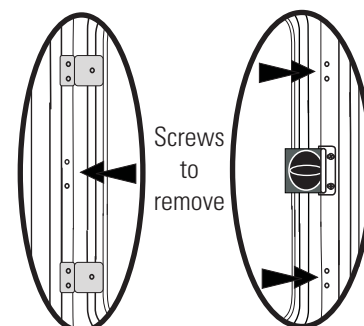

Figure 5-4. Screw Locations
3. Remove the four screws securing the inner door hinges and the two Phillips screws located between the hinges. See Figure 5-4. Retain the screws.
4. Remove the two screws securing the door strike and the four Phillips screws located on this side of the door (Figure 5-4). Retain the screws.